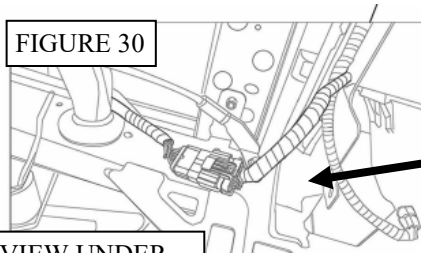

FIGURE 30
22. Use the provided Lock/Unlock Harness (**Item 11**) to connect to the plug underneath the vehicle's bed. (**Fig. 30**) Route the provided harness upwards into the area behind the passenger side tail light. Reference the procedure shown in the video tutorial (see qr code).